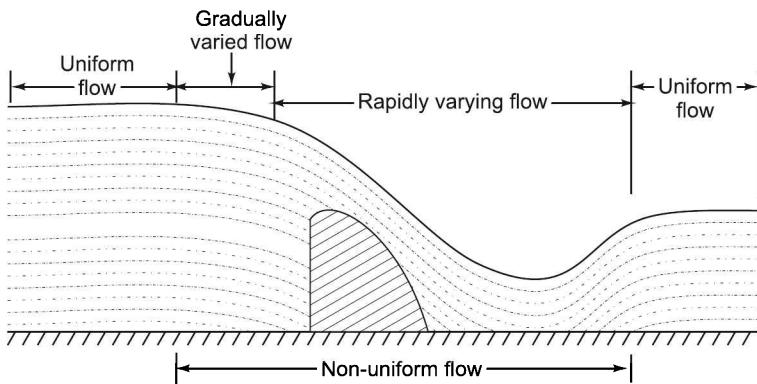

FIGURE 18.48 Types of non-uniform flow.
- (c) **Classification of non-uniform flow:** Non-uniform flow can be (i) gradually varied flow (ii) rapidly varied flow and (iii) spatially varied flow as shown in Figure 18.48.